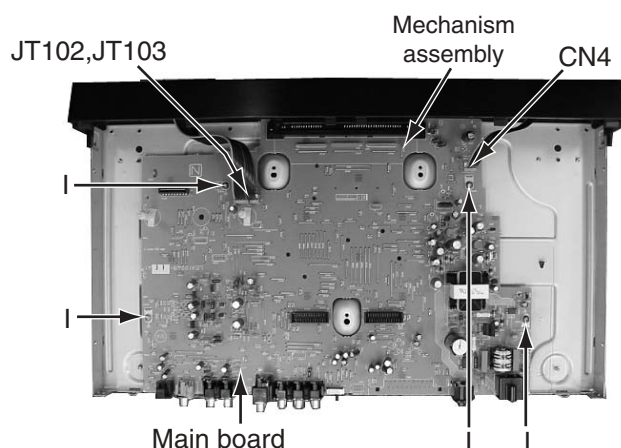

Fig.2-7
2.1.7 Removing the main board (see Fig.2-7)